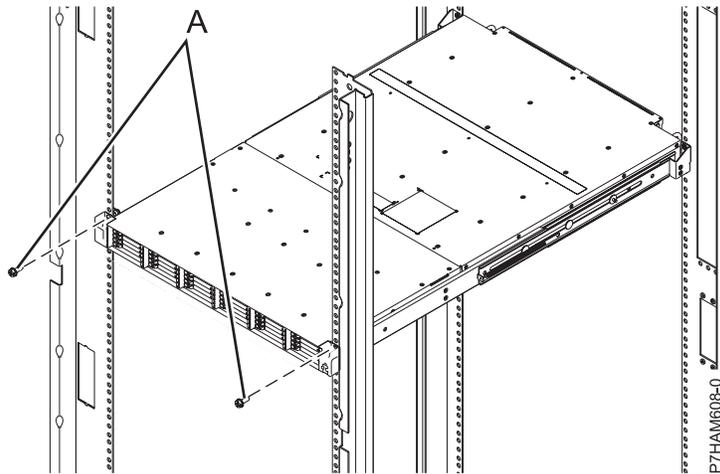

Figure 13. Securing the front of the enclosure to the rack
- e. Secure the front of the enclosure to the rack flanges by applying the securing screws (A) through the top open holes in each bracket and into the top EIA holes, as shown in Figure 13.